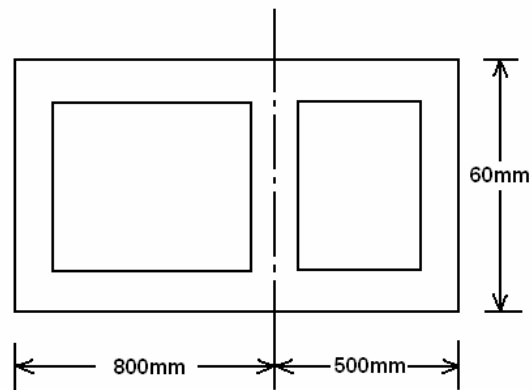

Fig .3
5. Determine the maximum shear stress and angle of twist when the section (fig.3) is subjected to a torque of 80 KN – m. All walls are 12 mm thick. Take $G = 80 \text{ Gpa}$.